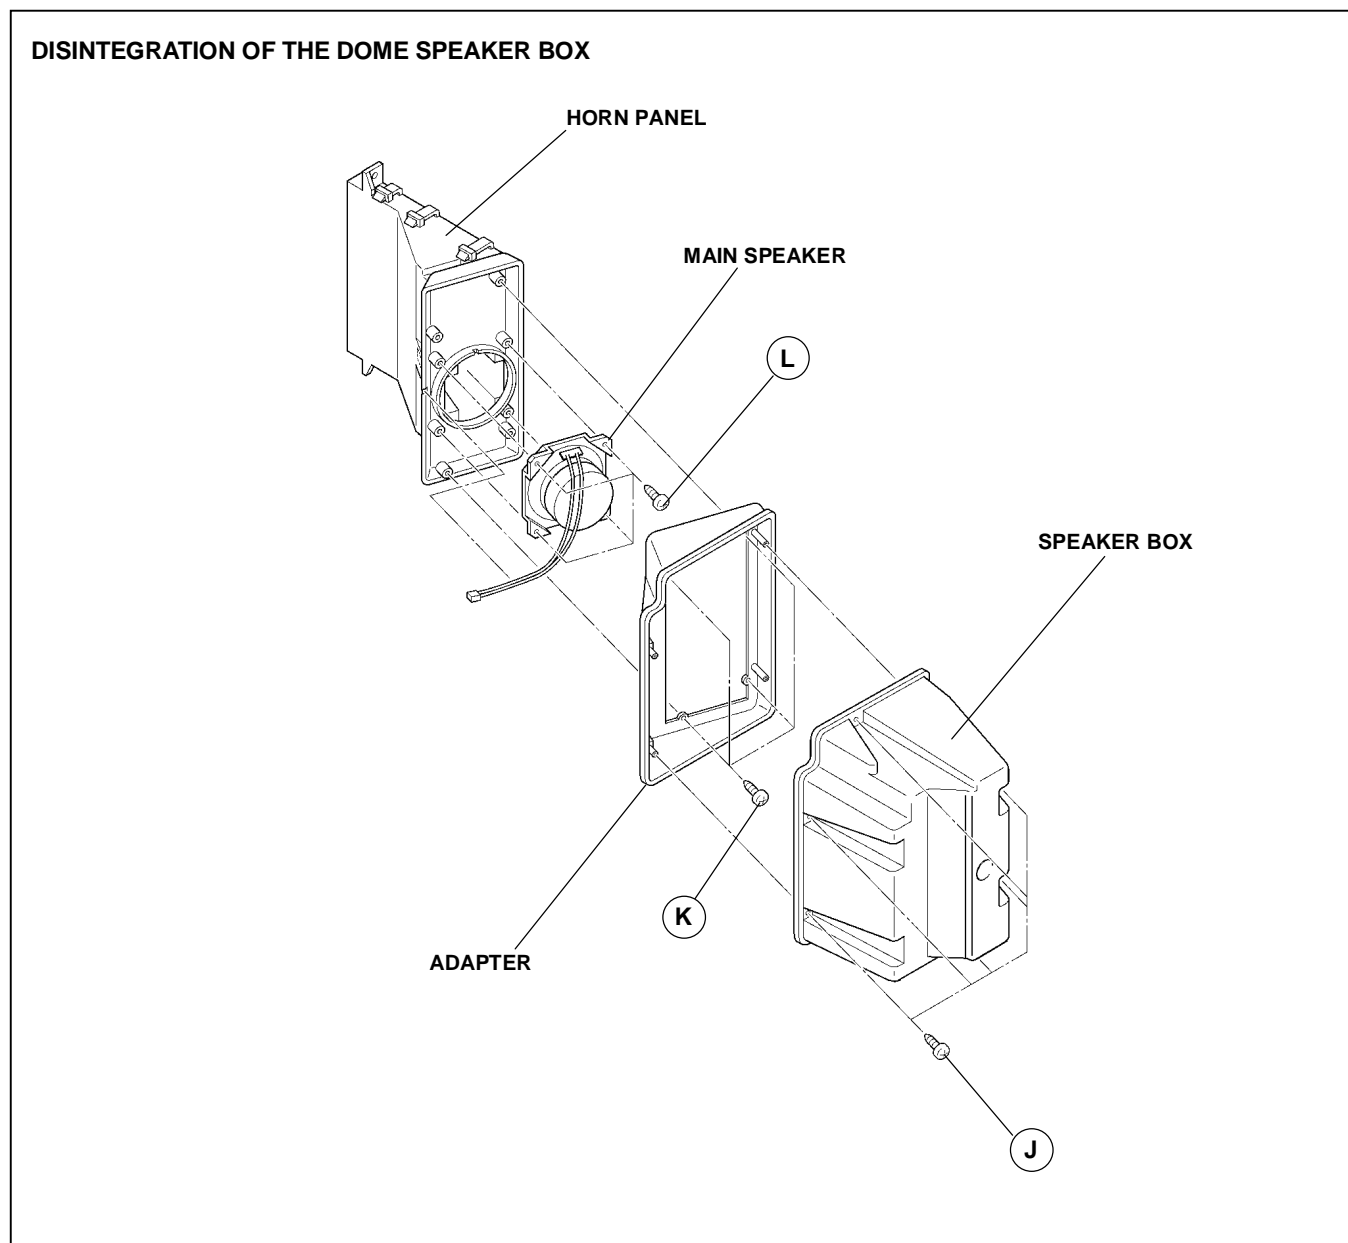

Fig.3
1. As shown in Fig. 3, remove the 6 screws marked **J** to dettach the speaker box.